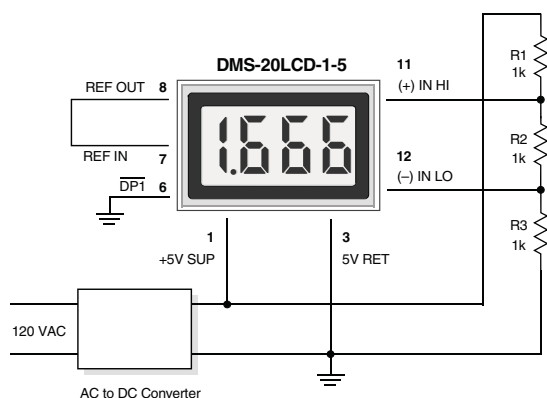

Figure 3. Differential Input Configuration (5V-Powered Models)
- 2. Differential Input Configurations:** Differential measurements can be made with either 5V-powered or 9V-powered meters. Figure 3, though not a practical real-world application, uses a voltage divider to demonstrate the concept of a differential input signal. Be careful not to exceed the $\pm 2V$ common mode voltage limitation for 5V powered meters.